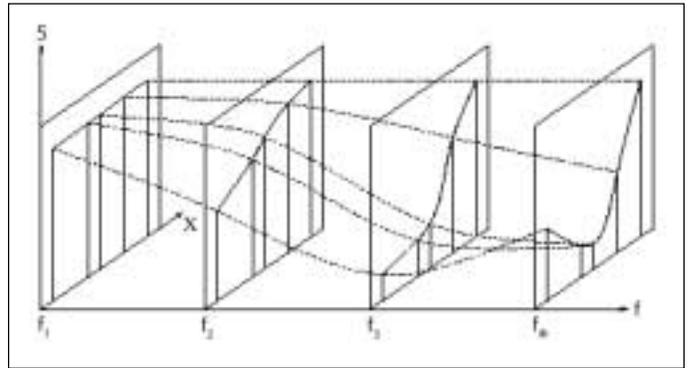

Figure 3. Multinomial models are created at discrete frequencies.
2. A multinomial is fitted to the S-parameter data at all frequencies (see Figure 3).